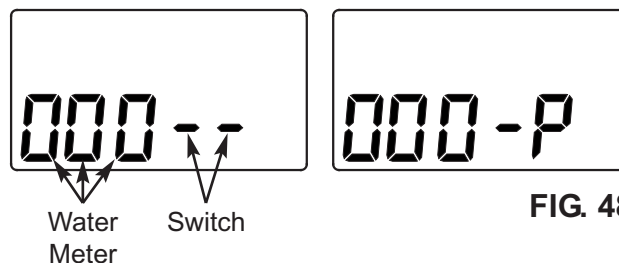

FIG. 48
3. The letter "P" and a dash (or dashes) indicate POSITION switch operation (See Figure 48). If the